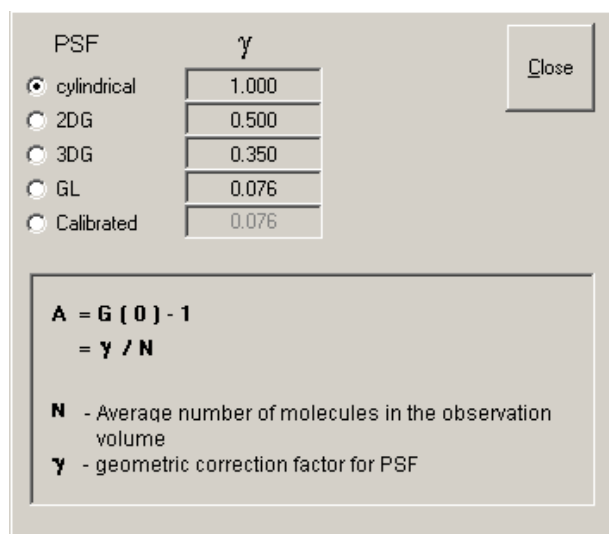

Fig. 4-74 Settings Amplitude panel
- You can set a value for the geometric factor γ , which describes the point-spread function (see Fig. 4-74).
- By activating the corresponding option you can select between a cylindrical, 2 dimensional Gaussian (2DG), 3 dimensional Gaussian (3DG) and Gaussian-Lorentzian (GL) PSFs. If you activate the Calibrate selection box, you can type in a user defined number or use the arrows to set a value.